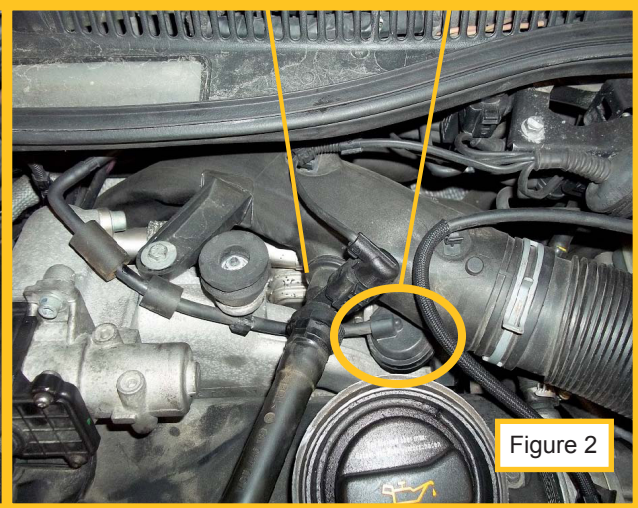

Figure 2
- EGR cooler bypass valve vacuum actuator (figure 2)
- EGR cooler (figure 2)